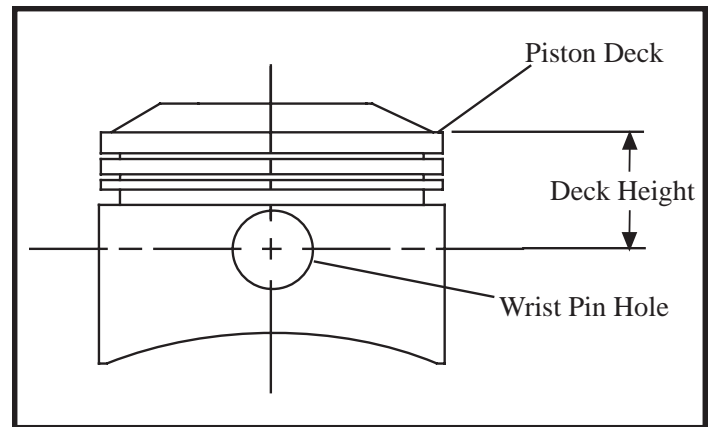

Figure 6
3. Note where piston deck (**See Figure 6**, piston deck diagram) is positioned in relationship to head gasket surface. Piston deck (flat located